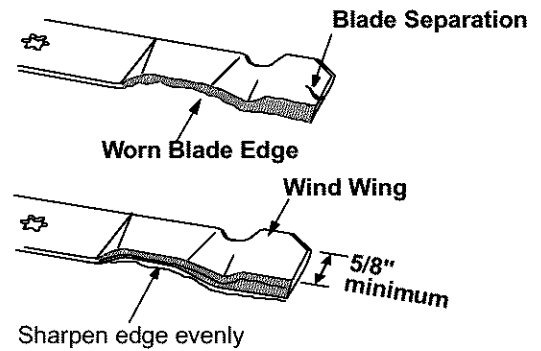

Figure 22
- To properly sharpen the cutting blades, remove equal amounts of metal from both ends of the blades along the cutting edges, parallel to the trailing edge, at a 25° to 30° angle. See Figure 22.
IMPORTANT: If the cutting edge of the blade has already been sharpened to within 5/8" of the wind wing radius, or if any metal separation is present, replace the blades. See Figure 22.